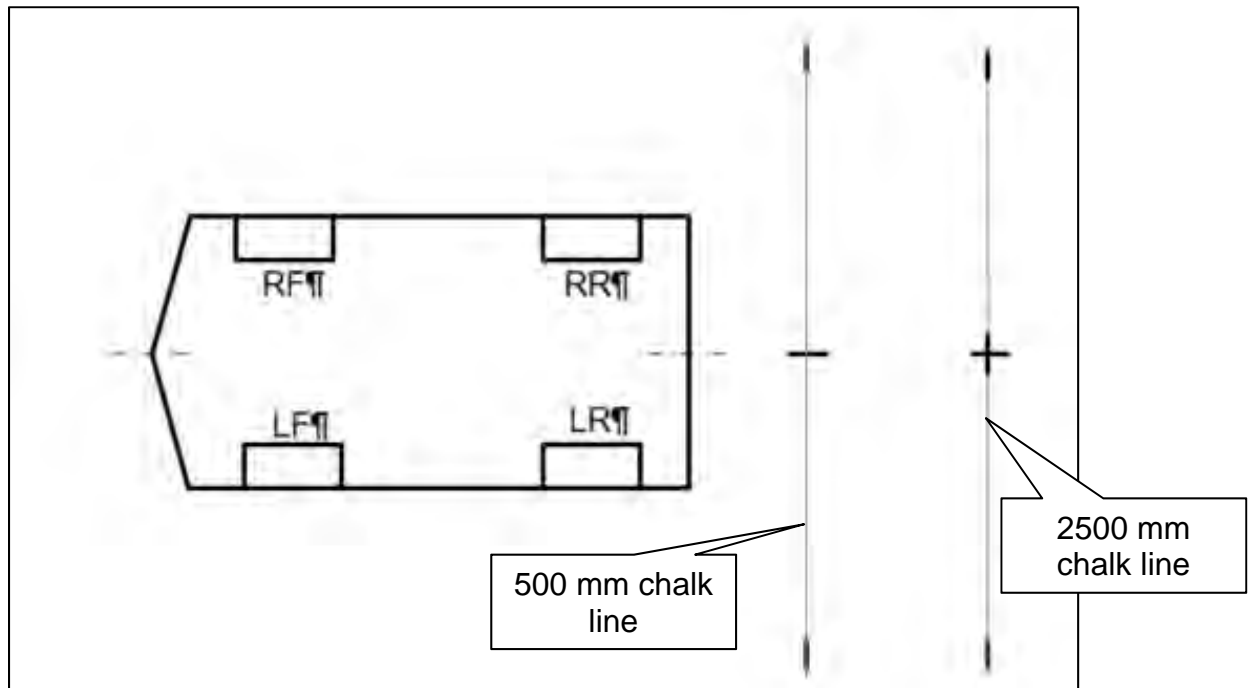
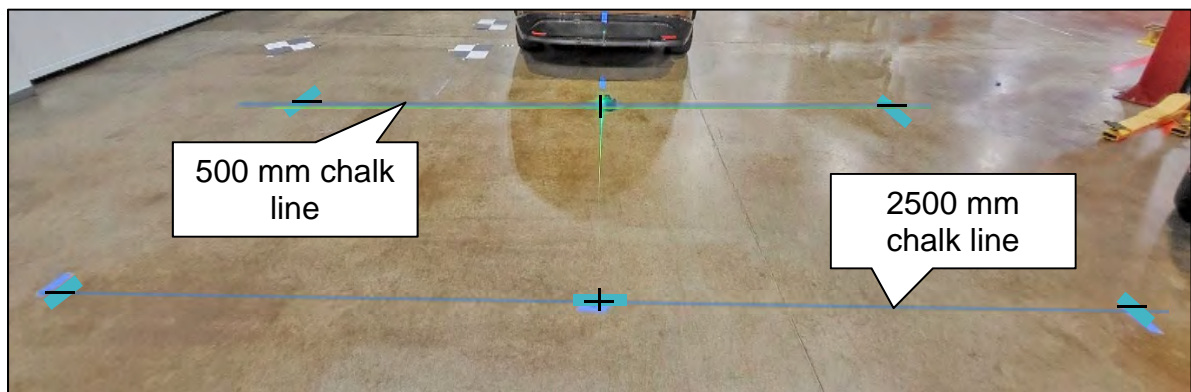

Figure 82
Figure 83
54. Use a chalk line tool to make a line between the 500 mm and 2500 mm marks, as shown in Figure 82 and Figure 83.